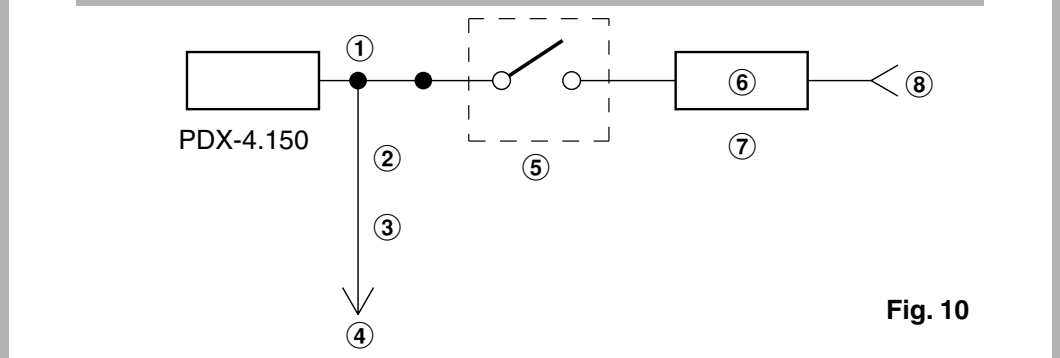

Fig. 10
CONNECTION CHECK LIST (Fig. 10)
- Please check your head unit for the conditions listed below: (Fig. 10)